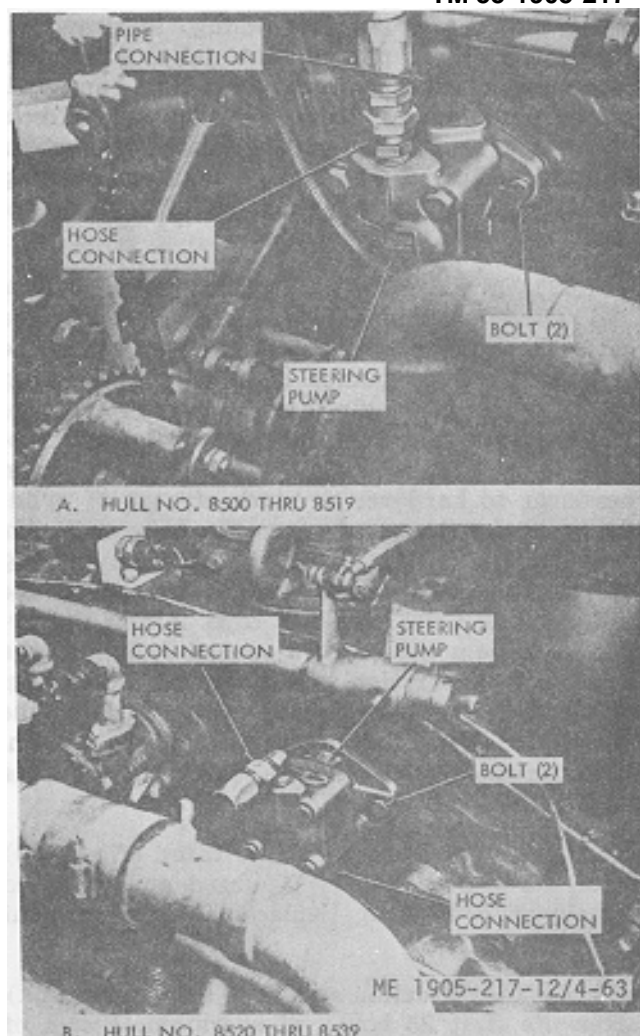

Figure 4-63. Hydraulic steering pump.
(2) Remove inlet and outlet connections from pump (fig. 4-63).
(3) Remove two attaching bolts and remove pump.